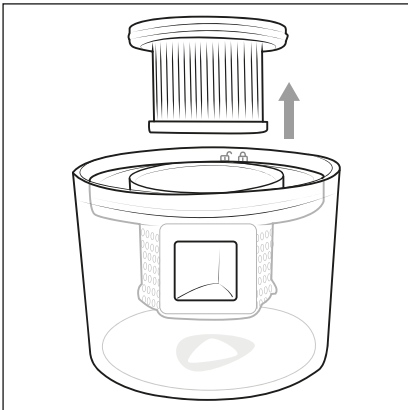

Fig. 5
- 2) Use your thumb and index finger to pull the HEPA filter **5** out of the dust filter **6** (Fig. 5).